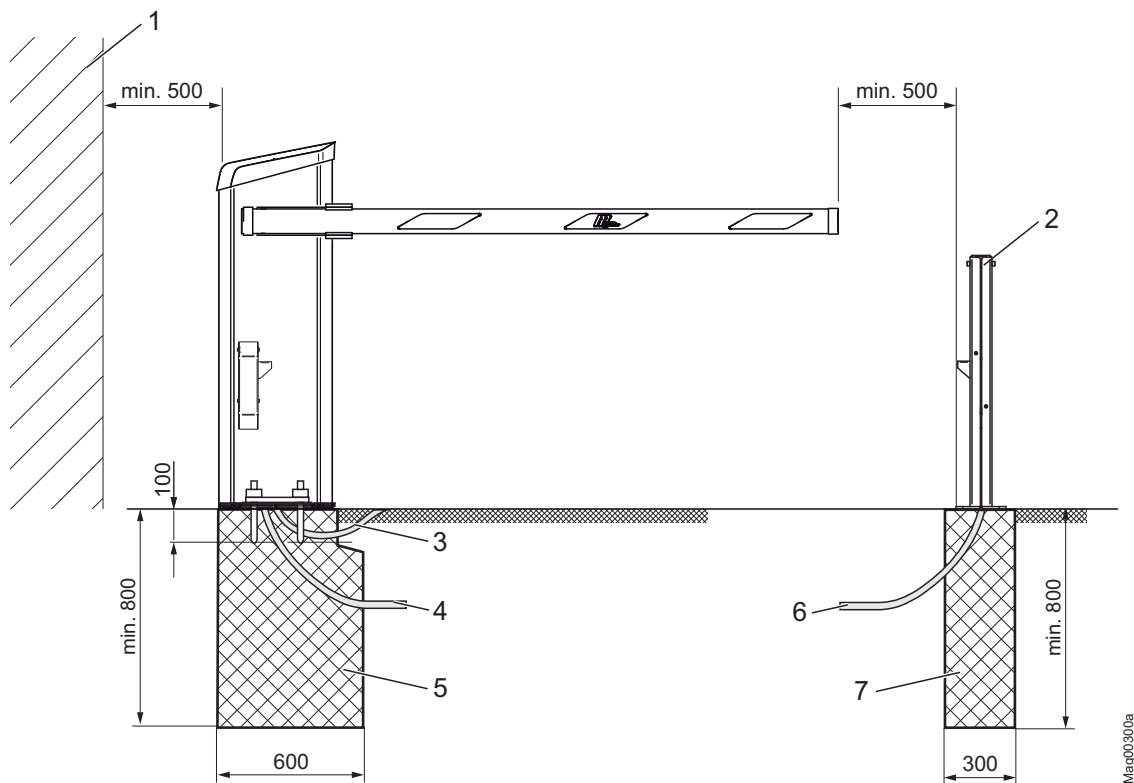
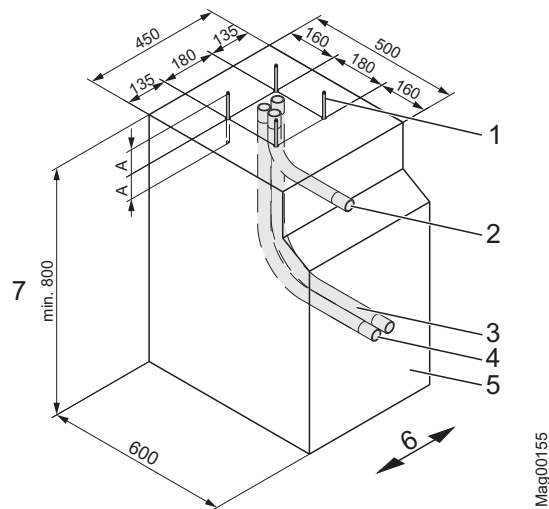
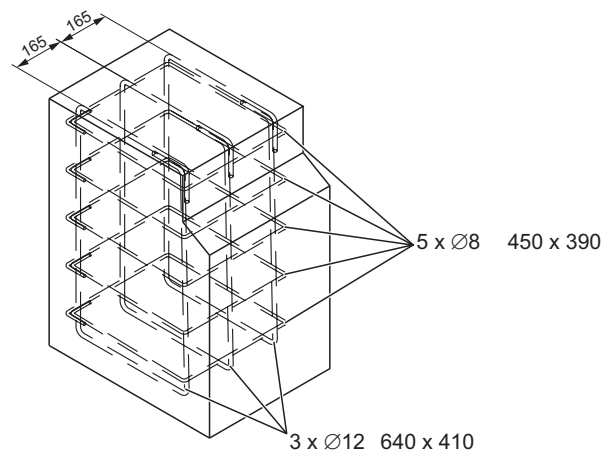

Fig. 10: Assembly boom system
Fig. 11: Foundation plan
Fig. 12: Reinforcement grid
<p>WARNING! Danger of crushing and shearing if the safety distance between the barrier boom and other objects is too low!</p> <p>A closing or opening barrier boom can cause severe injuries from crushing if the safety distance to other objects is too low! Therefore:</p> <ul style="list-style-type: none"> <li>– Keep a safety distance of at least 500 mm between the barrier boom and other objects, such as walls, masonry or houses. → See page 26, chapter 2.8.</li> <li>– Assemble and install barrier system according to Fig. 10.</li> </ul>
- Keep a safety distance of at least 500 mm between the tip of the barrier boom and other objects, such as walls, masonry or houses. → See page 44, Fig. 10.
→ See page 44, Fig. 10 and page 46, Fig. 12.
→ See page 46, Fig. 11.
1. Dig foundation hole pursuant to Fig. 10 and Fig. 11.
2. Place reinforcement grid pursuant to Fig. 12 in the foundation hole.
3. Place empty conduits pursuant to Fig. 11 in the foundation hole.
5. Fill concrete foundation pursuant to Fig. 11.
→ See page 44, Fig. 10.